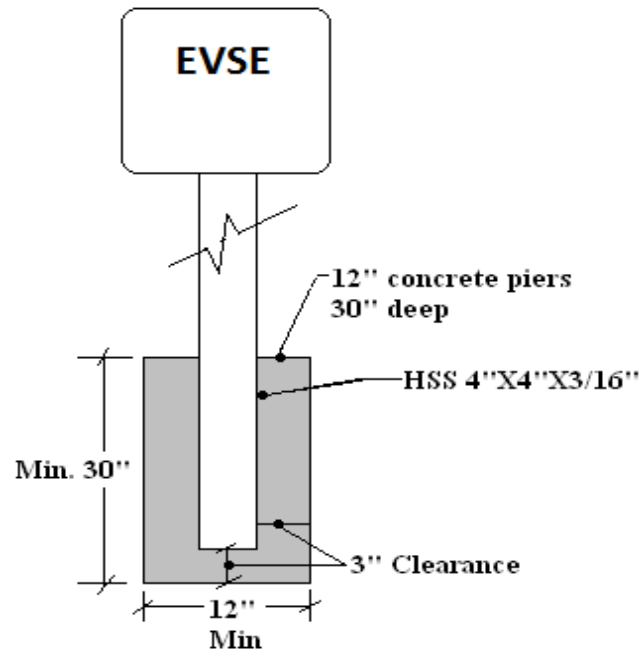

Figure CPA 004 – EVSE Mounted on Metal Post – Minimum Specifications
- See Figure CPA 004 minimum specifications when EVSE is mounted on a metal post.